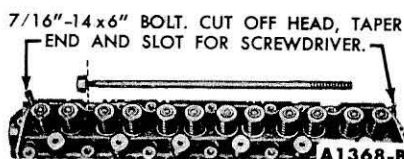

FIG. 26—Cylinder Head Guide Studs
10. Remove one cylinder head bolt from each end of the head and install the cylinder head guide studs (Fig. 26). Remove the remaining cylinder head bolts and remove the cylinder head. **Do not pry between the cylinder head and block as the gasket surfaces may become damaged.**